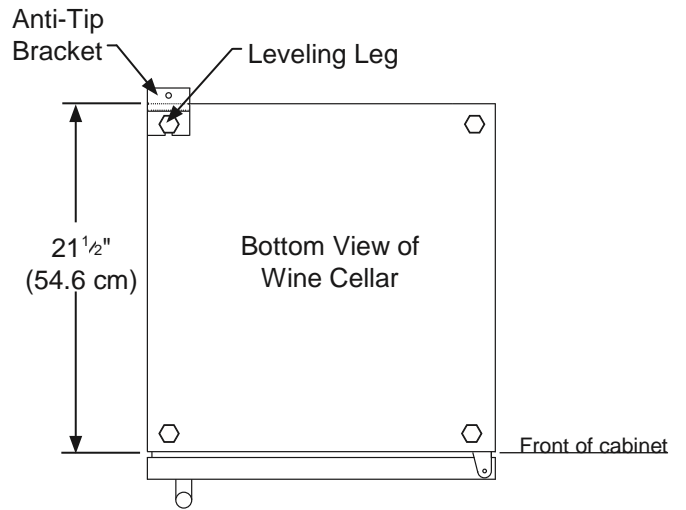

Figure 7
3) Make sure the wine cellar is in the desired location, then mark on the floor the rear and side corner of the cabinet where the anti-tip bracket will be installed. If the installation does not allow marking the rear corner of the cabinet, the anti-tip bracket is to be located on the floor in the left or right rear corner of the wine cellar as shown in Figure 7.